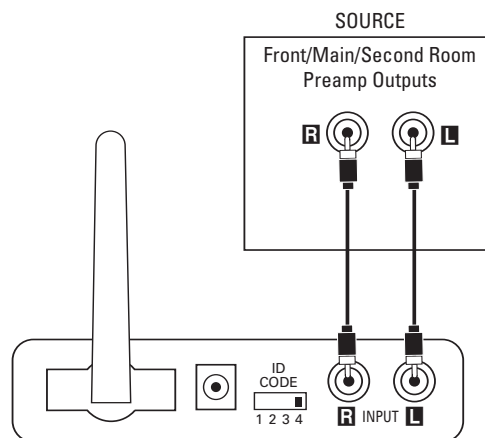

Figure 4.
Connect the interconnect cable (included) to the left and right front/main preamp outputs or zone 2 outputs or REC outputs and the inputs on the transmitter module ⑫, as shown in Figure 4.